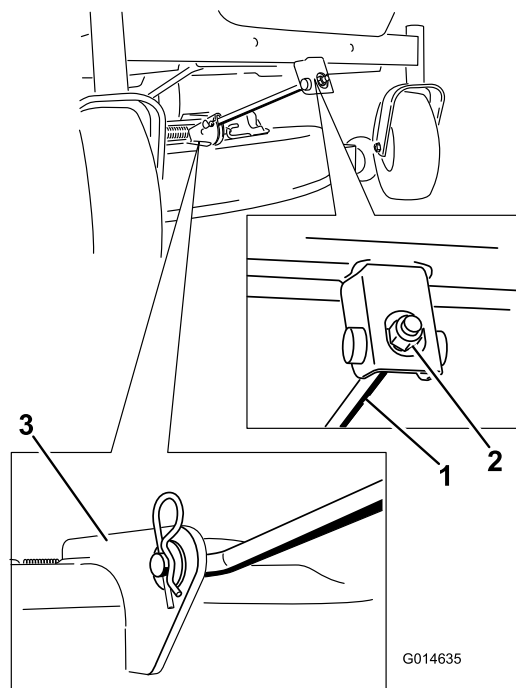

Figure 56
4. Remove the hairpin cotter from the front support rod, and remove the rod from the deck bracket (Figure 56).
6. Attach the front support rod to the mower deck with the clevis pin and hairpin cotter (Figure 56).